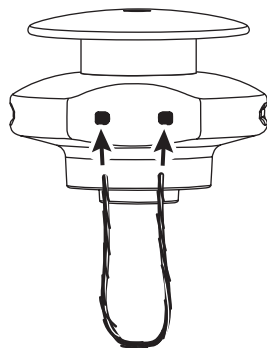

Fig. 20
1. Insert each end of the replacement line into the holes on either side of retention hook (Fig. 20).